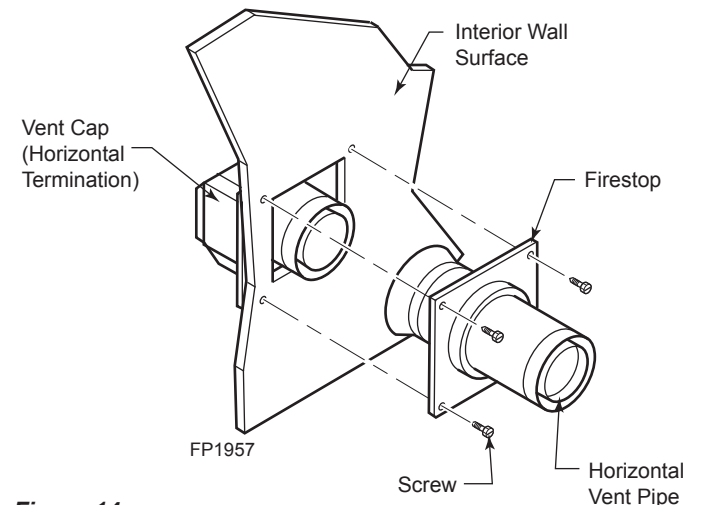

Figure 14 - Install Firestop on Horizontal Vent Pipe
5. Slide the wall thimble over the vent pipe before connecting the horizontal run to the vent cap. *Figure 14*
7. Slide the wall thimble against the interior wall surface and attach with screws. *Figure 14*